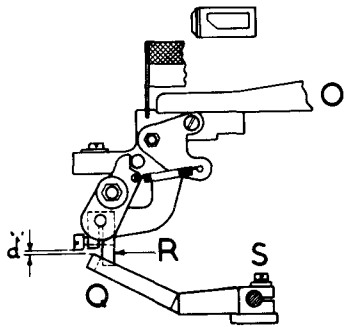
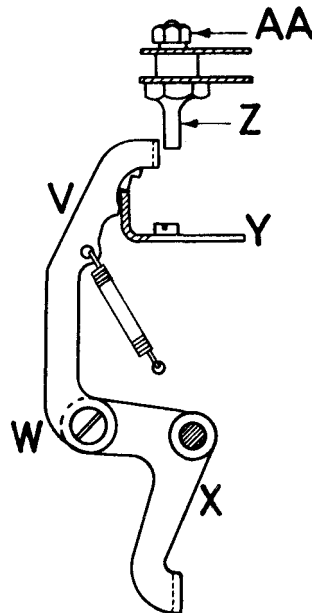

FIGURE 28D
FIGURE 28J
20D. Latching Lever (Figs. 28D, 28H and 28J)
- 20D.1 Depress any key, thus allowing the transmitter ratchet clutch to engage, and turn the machine by hand until the latch lever V, Fig. 28J, is latched in its uppermost position. Ensure that the trip lever Q, Fig. 28D, does not foul arm R during this movement.
- 20D.3 With a page attachment unit on the receiver latched in its normal working position, and with a sheet of paper in the platen, turn the machine further by hand. Adjust the eccentric pin Z on the typehammer by means of the nut AA, Fig. 28J, so that the latch lever V is just pushed off the rack Y when the typehammer moves to its extreme forward position. Turn the machine by hand until it resumes its 'rest' position.
20E. Trip Lever (Figs. 28D, 28E and 28J)
- 20E.1 Raise the latching lever V, Fig. 28J, with the finger until it engages in its uppermost position in the rack Y.
- 20E.2 Slacken screw S, Fig. 28D, and ensure that the raised end of the trip lever Q is opposite arm R. Adjust trip lever Q to obtain a clearance of $\frac{3}{64}$ " (1.2 mm.), i.e. dimension 'd', between the upper edge of lever Q and arm R. Tighten screw S.